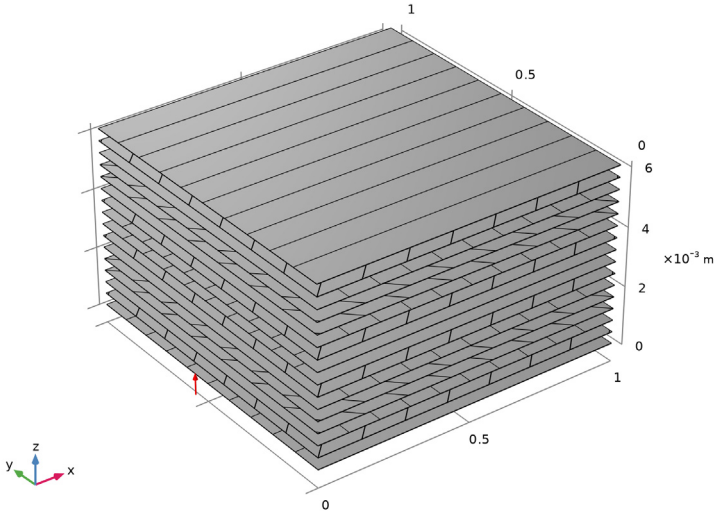

Figure 3: Stacking sequence $[[0/45/90/-45]_s]_2$ in rim region.
- Rim: $[[0/45/90/-45]_s]_2$ (Figure 3)